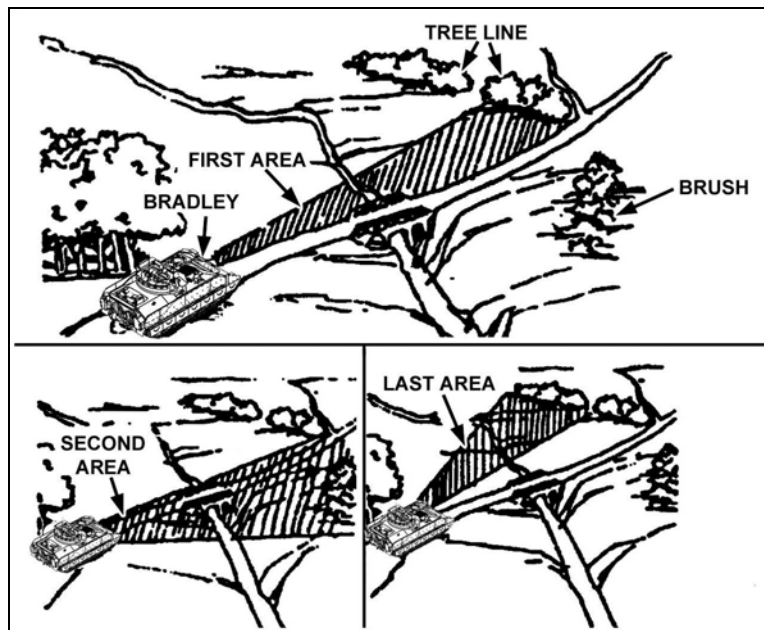

Figure 6-3. Rapid scans.
(1) **Rapid Scan.** Use this method first to detect obvious signs of enemy activity quickly (Figure 6-3).